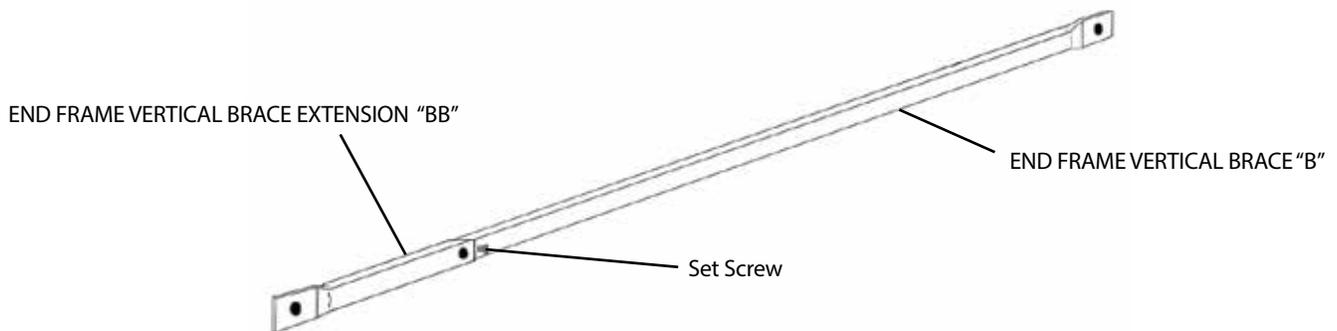

Figure 21.1
STEP 13: Locate the (2) END FRAME VERTICAL BRACES "B" and the (2) END FRAME VERTICAL BRACE EXTENSIONS "BB". Slide the END FRAME VERTICAL BRACES "B" into the corresponding opening in the END FRAME VERTICAL BRACE EXTENSIONS "BB" as illustrated in Figure 21.1, and fasten with the hardware (1) 1.25" Bolt and (1) Nut. This will create part COMPLETED VERTICAL BRACE , as it will be referred to in the remainder of the assembly manual.